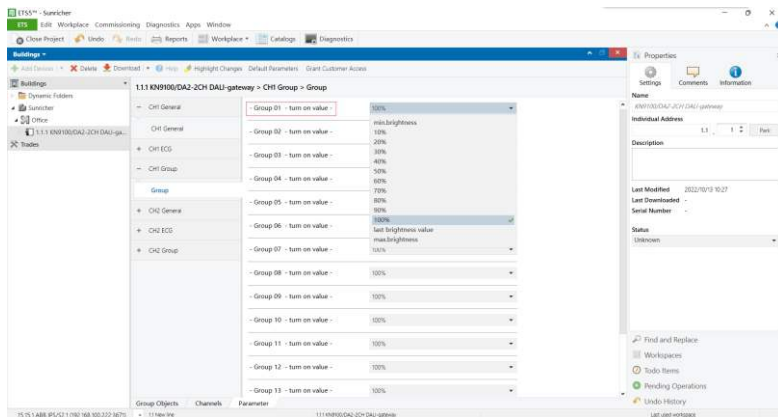

Figure 37
**Turn on value:** means brightness value when the group is turned on, drop down and tick a value, available settings are "10%-100%", "min. brightness", "max. brightness", and "last brightness value" as shown in Figure 37.